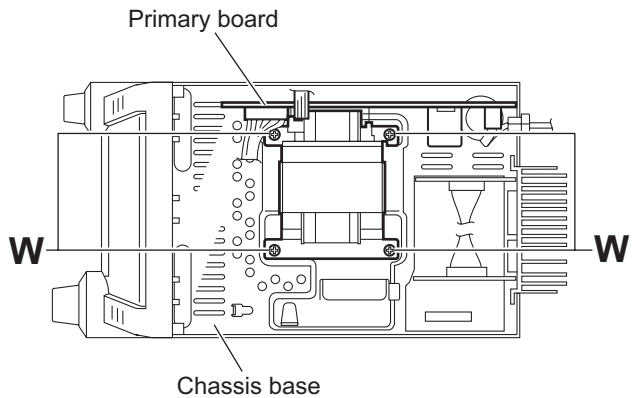

Fig.24
- (7) From the top and left sides of the main body, remove the four screws **W** and screw **X** attaching the primary board on the chassis base. (See Figs.24 and 25.)